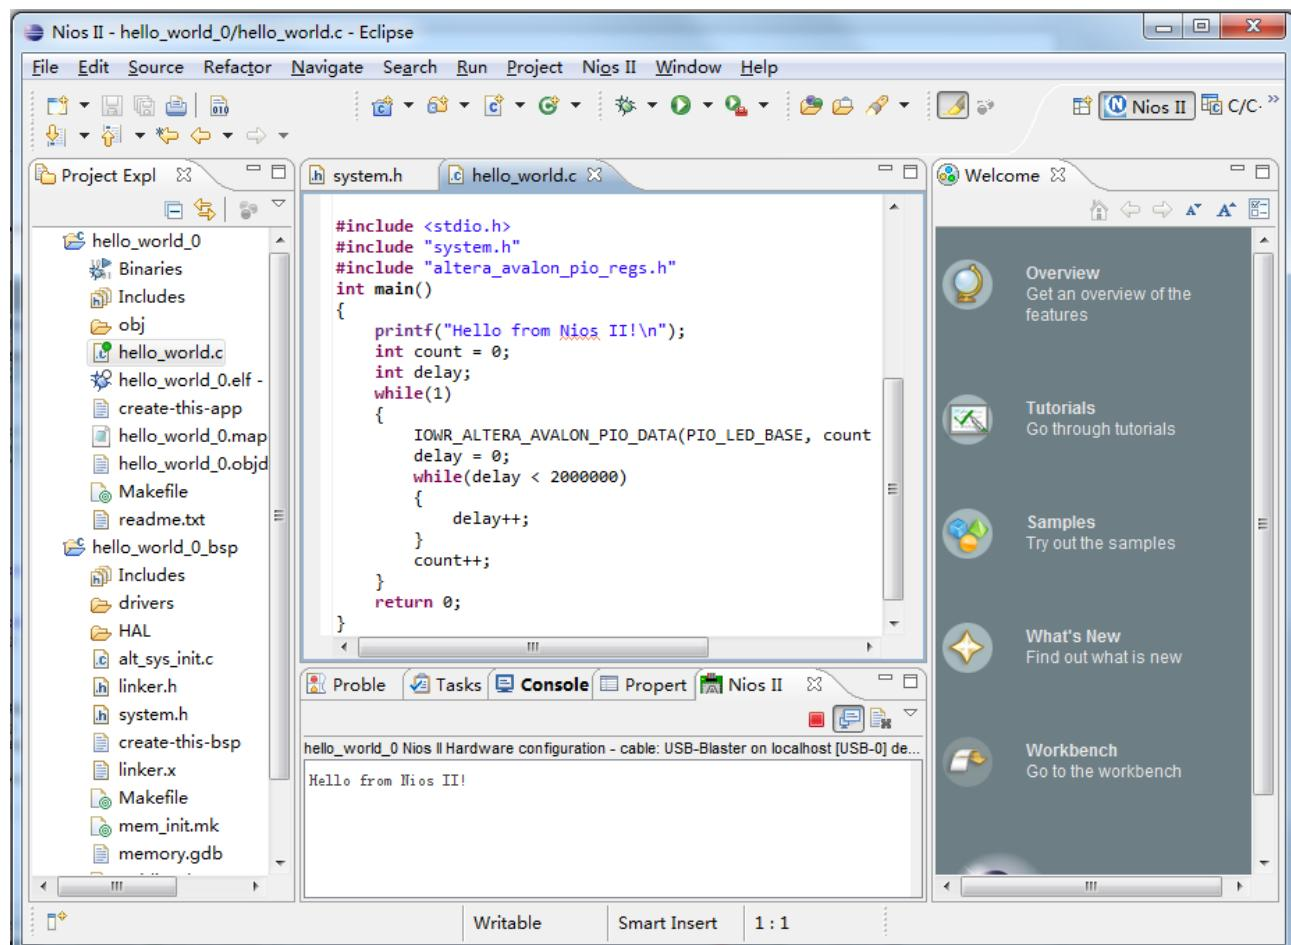

Figure 2-8 Set Breakpoint
1. In the hello_world.c, double-click the front of the line which is needed to set breakpoint. See **Figure 2-8**.